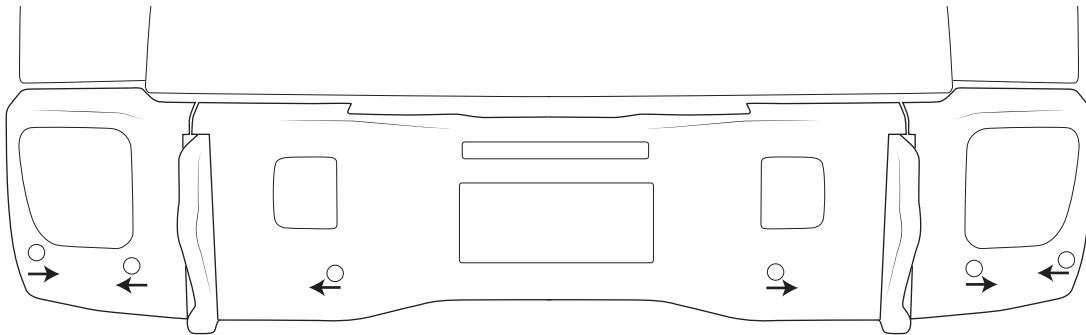

Figure 31
2. Install sensors into the bezels from the back side. Note the orientation of the sensors, the connector end should point in the directions shown (fig.31).